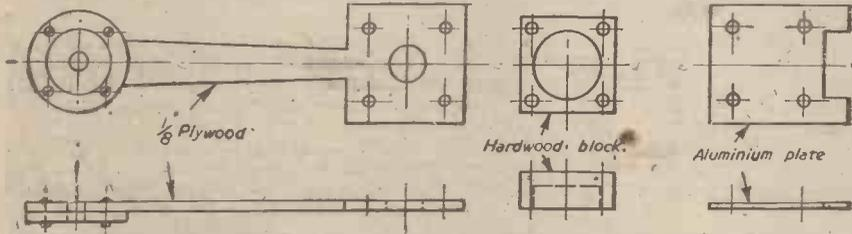

Fig. 6.—Details of radius arm, ball-race housing, and guide-plate. (Half full size.)
The rear axle (A, Fig. 4) is of 3/16 in. mild steel rod, turned down for 3/16 in. at each end, and screwed 2-BA at its extremities. The axle is carried in two 3/16 in. ball-races (B), housed in blocks of 3/16 in. hardwood, recessed with a 3/16 in. bit to allow the races to fit flush (Fig. 6). The housings are then capped by the rearward ends of the radius arms, which pivot outside the frame, the inner faces having guide plates projecting forward to locate them in the frame, sufficient clearance being allowed to ensure that the radius arms swing freely. Radius arms, housings and guide plates are secured together by 6-BA